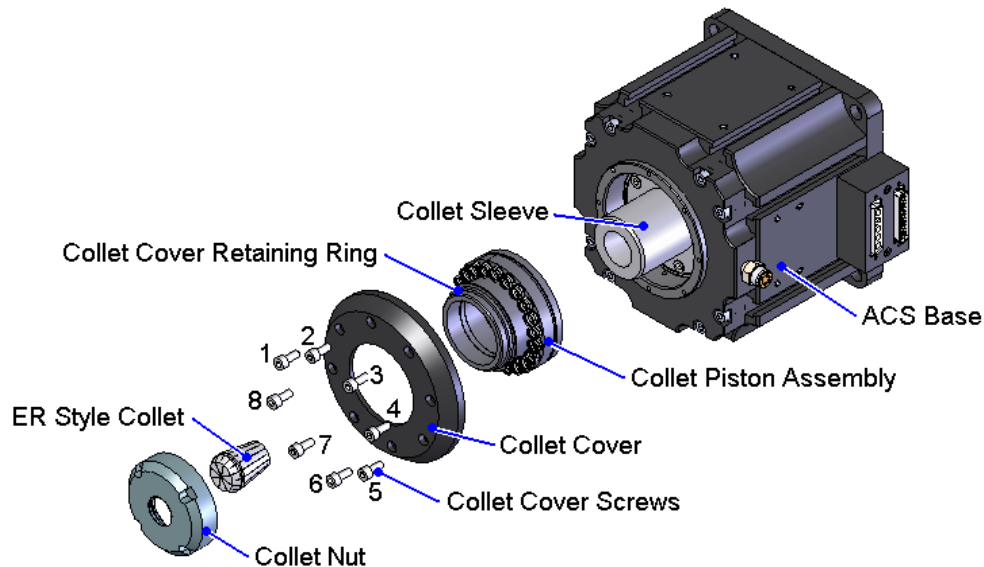

Figure 4-1: Exploded View of Collet Assembly
The seals on the collet piston may be replaced if a leak or excess wear becomes apparent. Figure 4-1 shows an exploded view of the assembly and includes all parts involved in the process. Figure 4-1 shows an ACS stage; ACS LP stages have an equivalent layout. The procedure to change the seals is as follows.
5. Refer to Figure 4-1. Remove every other collet cover screw (i.e., screws 1, 3, 5, and 7). All screws cannot be removed at once as the cap is under tension from several springs and will be damaged or cause bodily harm if removed without caution.